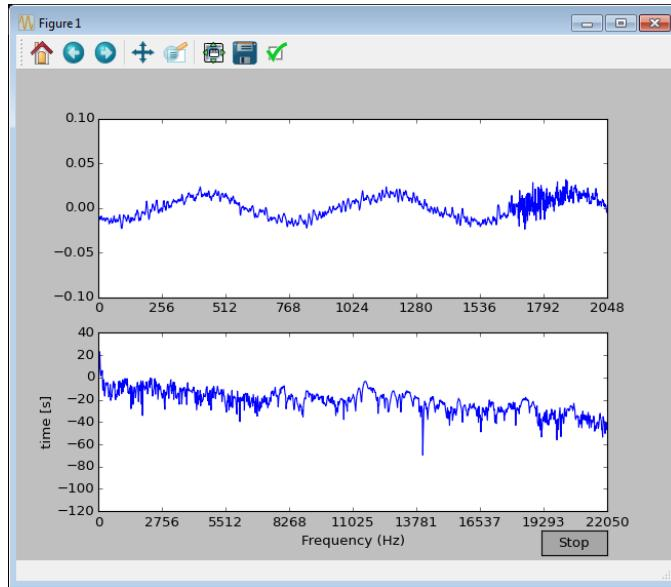

Figure 16: Screen capture of the microphone signal capture program.
- (a) If you are using the lab computer, you can run the program from the Spyder IDE that comes with the Anaconda Python distribution. If you do so, make sure that you run the program under the Python console rather than the IPython console. You could also run the program from the command line by “python realtime\_audio\_analysis.py”. You should expect to see a new window popping up that displays the sampled input signal and its frequency spectrum in real time (Fig. 16).